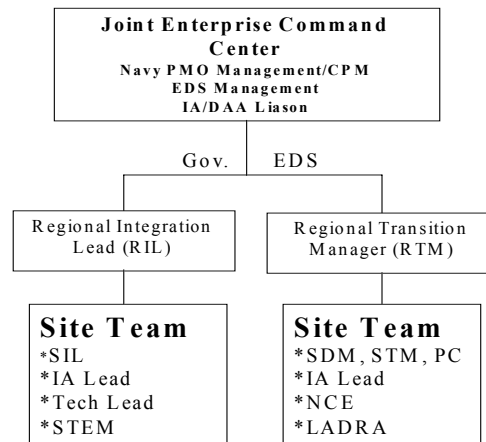

Figure 4. Regional Organizational Chart
- One page visual strategy for site execution: Performance to Plan.(Fig 4)